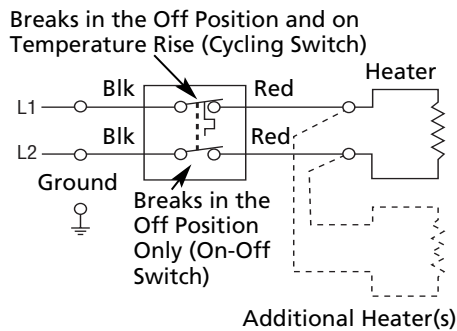

Figure 13 – 3UG32D Thermostat Wiring Connections
- Connect thermostat to baseboard heater and power wiring per wiring diagram (Figure 13) using properly sized listed wire nuts.